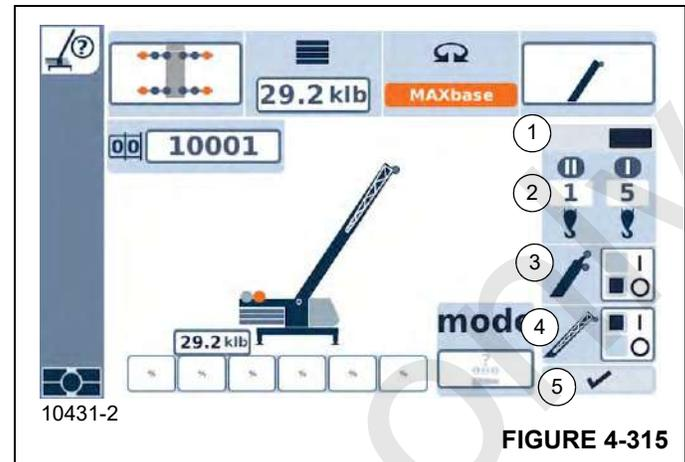

FIGURE 4-315
Once a MAXbase load chart has been selected, the operator must then complete the other RCL setup selections as needed (1 thru 4, (Figure 4-315):
When all selections have been made, the operator must select and confirm the Check Box (5), (Figure 4-315) to accept the programmed crane configuration.